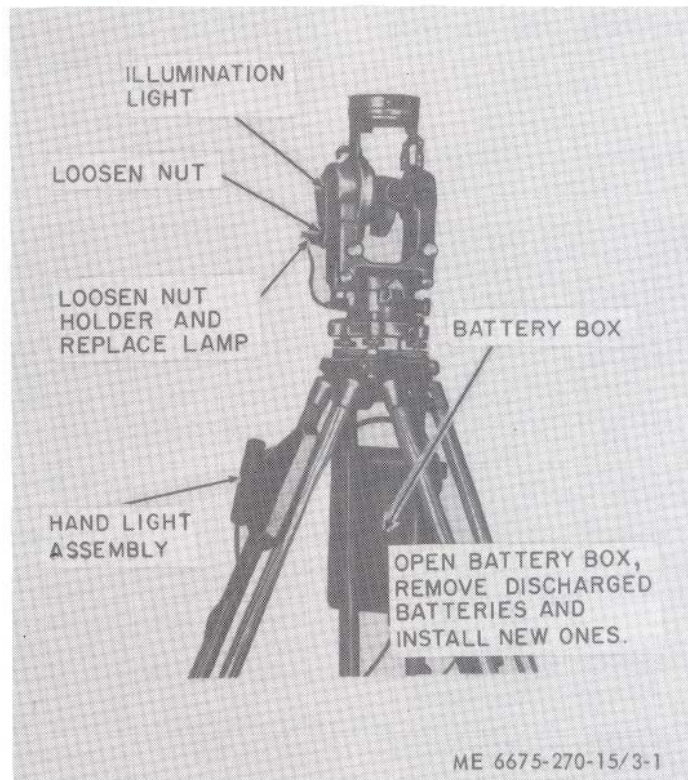

Figure 3-1. Lamp and battery, removal and installation.
a. *Illumination Lamp.* Refer to figure 3-1 and remove the illumination lamp.
b. *Hand Light Lamp.* Refer to figures 3-1 and 2-7 and remove the hand light lamp.
a. *Illumination Lamp.* Refer to figure 3-1 and install the illumination lamp.
b. *Hand Light Lamp.* Refer to figures 3-1 and 2-7 and install the hand light lamp.
Refer to figure 3-1 and replace an unserviceable battery.